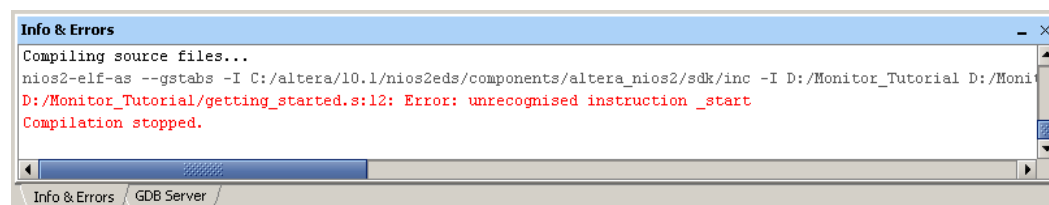

Figure 14. An example of a compiler error message.
During the process of developing software, it is likely that compilation errors will be encountered. Error messages from the Nios II assembler or from the C compiler are displayed in the Info & Errors window. To see an example of a compiler error message, edit the file *getting_started.s*, which is in the project's directory, and remove the colon that appears at the end of the `_start` label, in line 12. Recompile the project to see the error shown in Figure 14. The error message gives the line number in the file (12) where the error was detected. Fix the error, and then compile and load the program again.